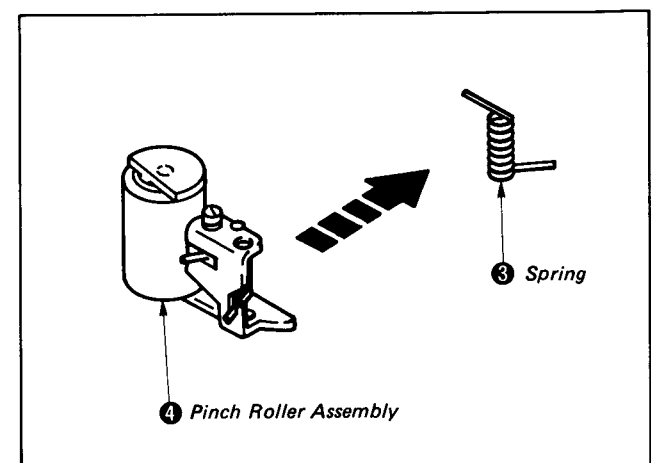

Fig. 1-21
- 6) Remove the spring ③. (See Fig. 1-21.)